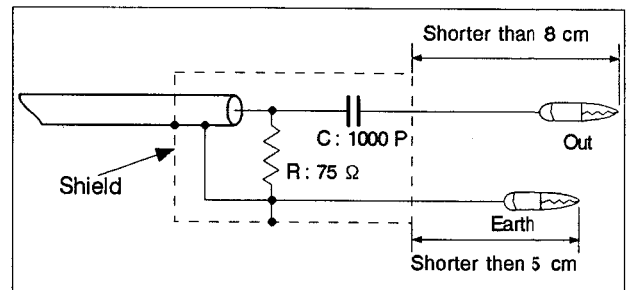

Fig. 3-1-26 Sweeper probe
- 1) Use a sweeper probe as shown in Fig. 3-1-26.